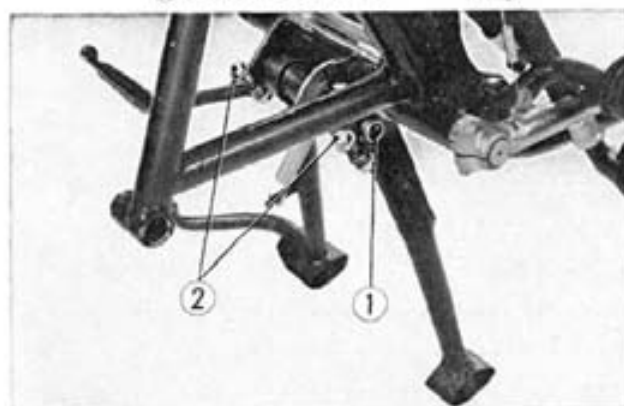

Fig. 15-2 ① Cotter pin ② Main stand mounting bolts
6. Remove the cotter pin from the main stand shaft collar and remove the two mounting bolts. (Fig. 15-2)